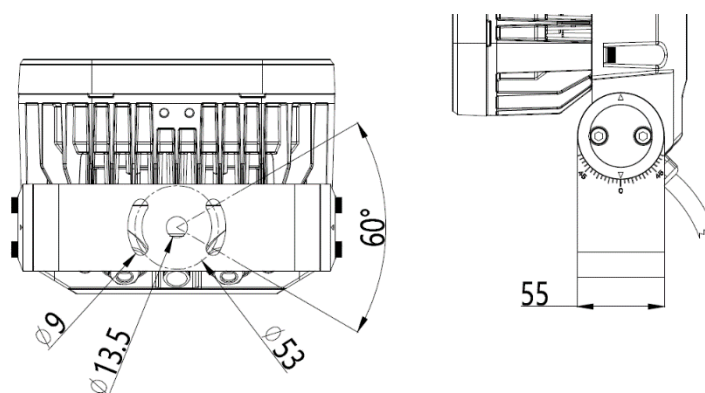

Figure 1. Mounting yoke base, S and M fixtures
1. See Figure 1. Pass a 12 mm (1/2 inch) shaft diameter bolt through the 13.5 mm hole in the center of the yoke base and fasten it finger-tight into the surface.